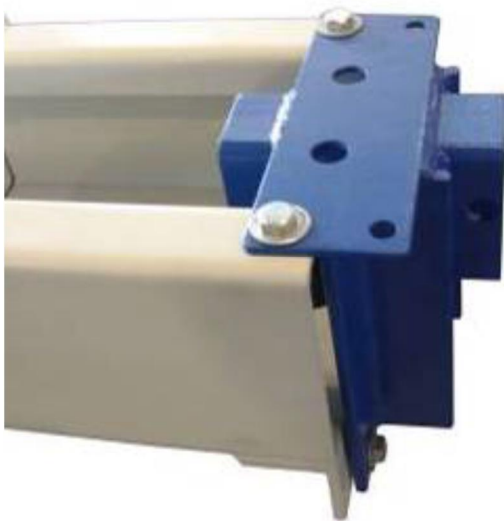

Fig. 4a
- A. Connect cylinder mounts to top of each column using 4ea 1/2" x 1-3/4" bolts, washers and nuts provided as shown in figures 4a & 4b.